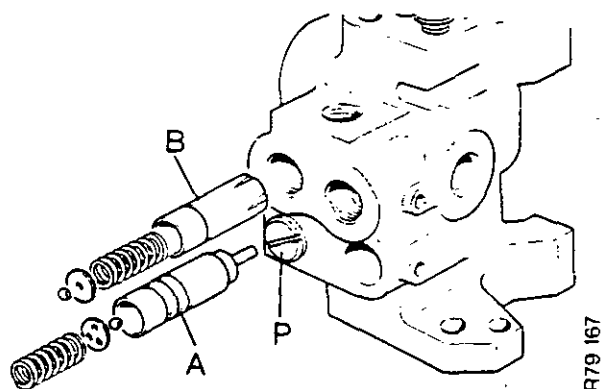

FIGURE 69. REMOVING THE BY-PASS AND HOLD VALVES
5. Remove the valve body from the vice. Put a hand over the valve ports then turn the valve body (see Figure 69). A ball, spring and retainer will fall from the hold valve and by-pass valve. Earlier by-pass valves were fitted with a spring or a spring and metering pin. Use a 12 mm dowel made of plastic or wood to remove the plungers. Store the plungers with their parts.